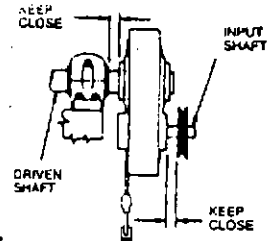

Fig. 2
4. Install sheave on input shaft as close to reducer as practical. (See Fig. 2).